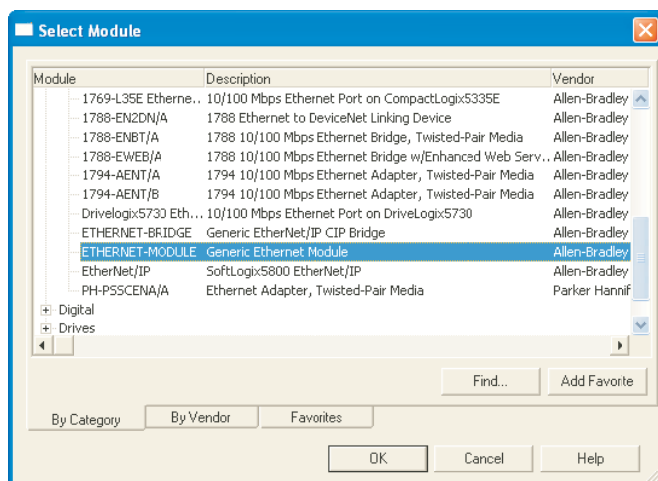

Figure 4.3.21n 'Select Generic EtherNet Module'
3. Using the scroll bar as necessary, click on the 'Generic EtherNet Module' item (figure 4.3.21n) and click on 'OK' (or double click on the selected item).